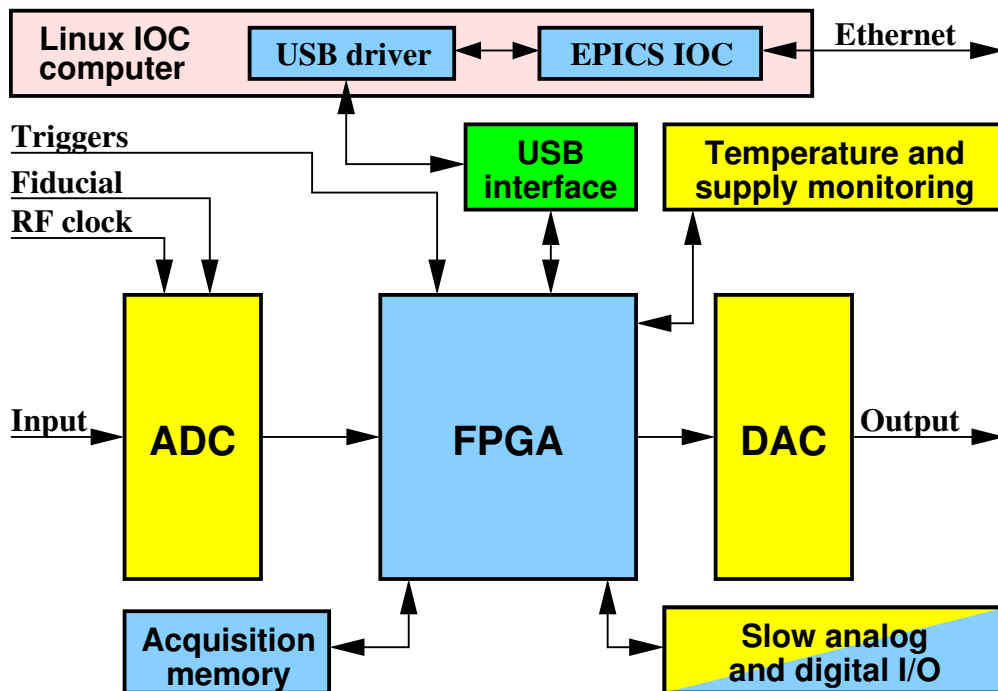

Figure 1: iGp12-5120F block diagram
A block diagram of the iGp12-5120F system is shown in Figure 1. The main signal processing chain consists of a high-speed 12-bit analog-to-digital converter (ADC), a field programmable gate array (FPGA), and a high-speed 12-bit DAC, all driven by the radio frequency (RF) clock. In addition to performing real-time control computations, the FPGA interfaces to a number of on-board devices, such as high-speed data acquisition memory (static random access memory (SRAM)), low-speed analog and digital input/output (I/O), as well as temperature and supply voltage monitors. In turn, the FPGA uses an internal universal serial bus (USB) connection to communicate to an embedded input-output controller (IOC) computer housed in the same chassis. The IOC runs the Linux operating system and is connected to the overall control system via the Ethernet.